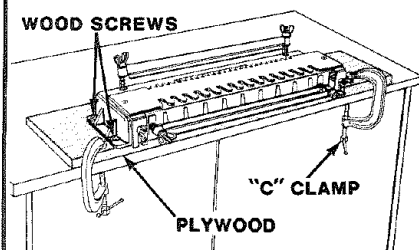

Fig. 6
2. A second, more preferred, method would be to mount your dovetail template onto a piece of 3/4 inch plywood approximately six inches wide and twenty-four inches long. See Figure 6. Position front of base flush with the front and centered with the ends of the board, then insert four flat head wood screws through holes in the base and secure firmly into plywood. Your dovetail template (with wooden base) may then be clamped securely to workbench or table with "C" clamps or other holding apparatus. Here again, it can be easily removed upon completion for easy storage or changing job sites.